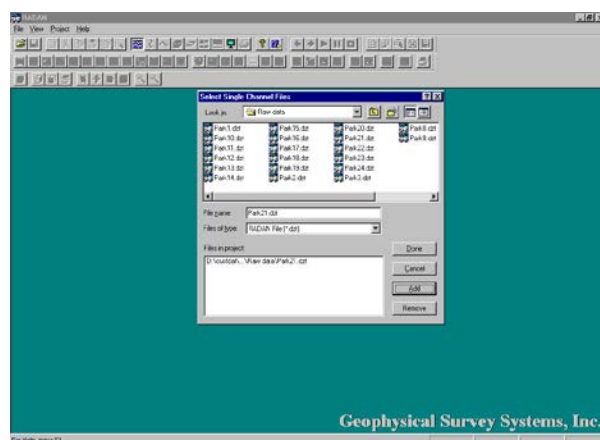

Figure 28: Select Single Channel File dialog box open. First profile segment selected.
- 2** Select each file segment **IN SEQUENCE** and select Add from the dialog box. In Figure 28 the first file segment has been selected.